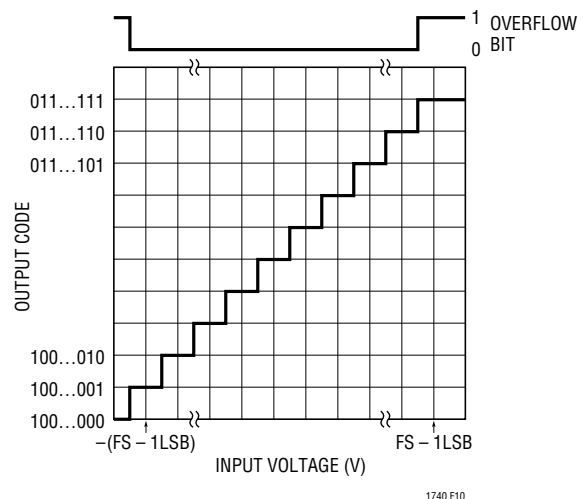

Figure 10. LTC1740 Transfer Characteristics
Figure 10 shows the ideal input/output characteristics for the LTC1740. The output data is two's complement binary for all input ranges and for both single and dual supply operation. One LSB =  $V_{REF}/(0.9 \cdot 16384)$ . To create a straight binary output, invert the MSB (D13). The overflow bit (OF) indicates when the analog input is outside the input range of the converter. OF is high when the output code is 10 0000 0000 0000 or 01 1111 1111 1111.